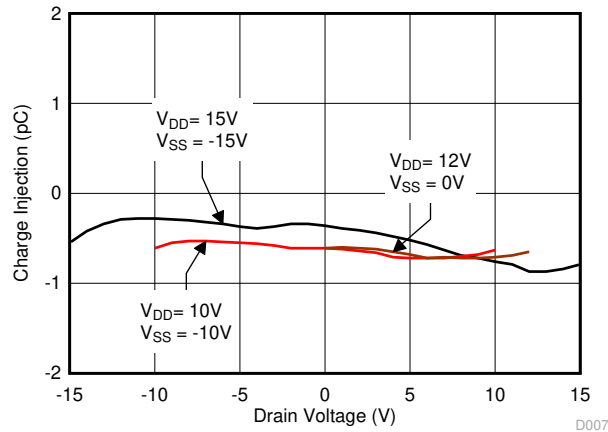

Figure 6-15. Charge Injection vs Drain Voltage
The TMUX6136 utilizes special charge-injection cancellation circuitry that reduces the drain (D)-to-source (Sx) charge injection to as low as  $-0.4\text{pC}$  at  $V_S = 0\text{V}$ , as shown in Figure 6-15.